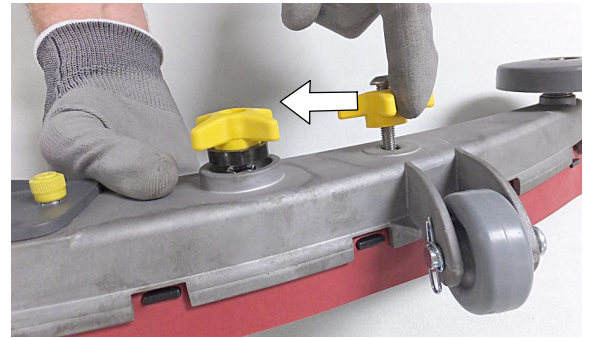

FIG. 126
5. Squeeze the squeegee frame and blade retainer together and re-tighten the two outside knobs (Figure 126).